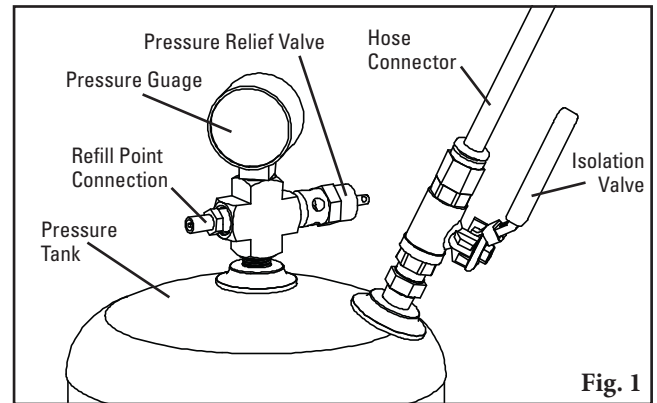

Fig. 1
2. **Isolate the PAT Air Tank by closing the isolation valve connected to the top of the tank, refer Fig. 1** (isolation valve) by rotating 90°, and then lock the valve in the closed position with either personal or group isolation locks.